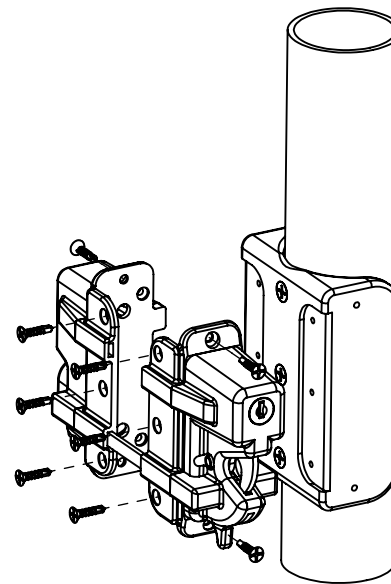

Fig. 2
5. Following the **"KLX" Gate Latch Instructions** and using the **"SPINDLE CUT LENGTH"** for a **3-1/2" Post**, mount the Latch to the Installed Latch Mounting Bracket. (**Fig. 2**)